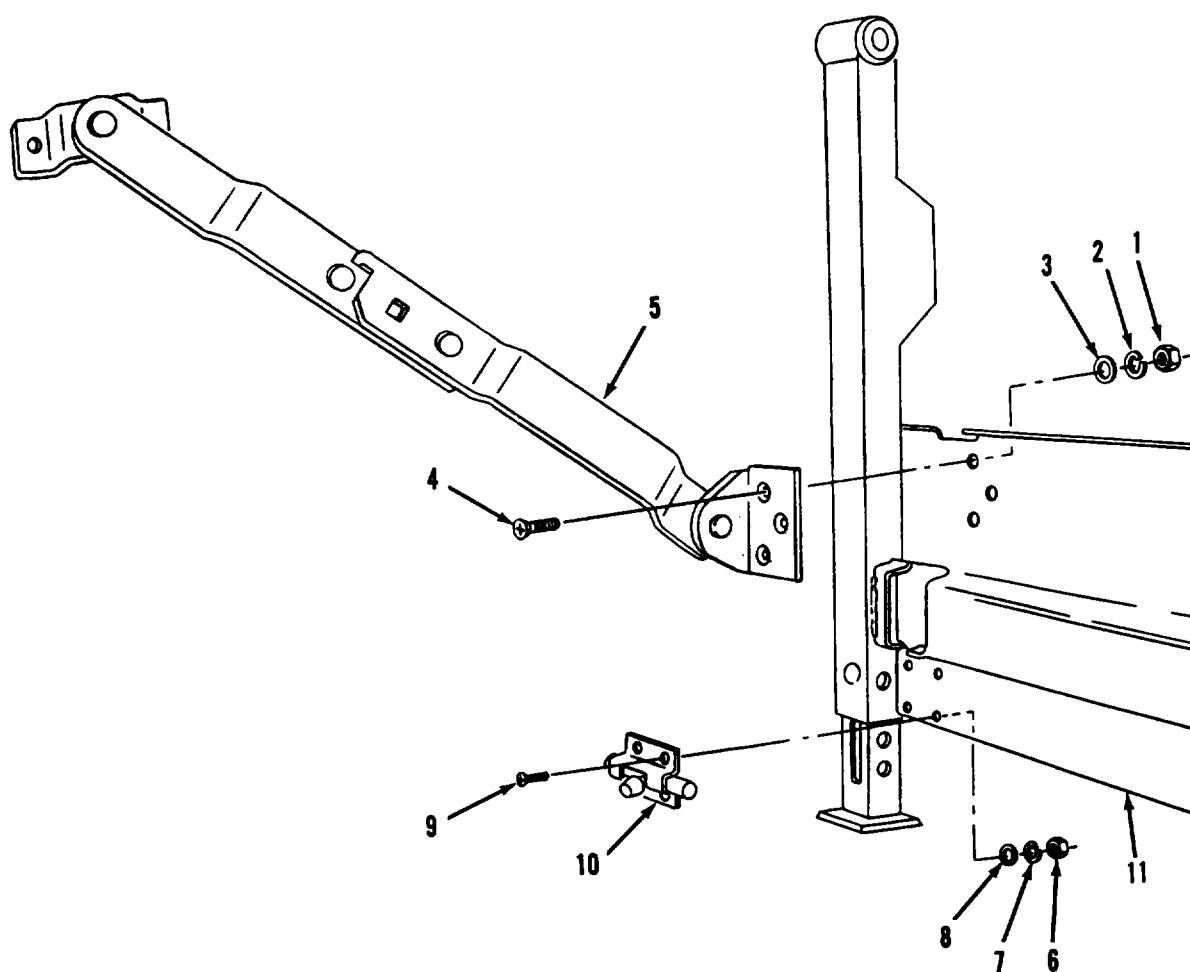

Figure 4-8. Leg Support Repair.
- b. Disassembly. Refer to figure 4-8.
- (3) Remove four nuts (6), lockwashers (7), flat washers (8), screws (9) and barrel bolt (10) from support frame (11).
- c. Cleaning. Refer to figure 4-8,
- d. Inspection. Refer to figure 4-8.
- (1) Inspect support frame (11) for cracks, broken welds and bent or twisted frame components.
- (2) Inspect braces (5) for bent or twisted components.
- (3) Inspect barrel bolts (10) for cracks and stuck lock bolt.
- f. Assembly. Refer to figure 4-8.